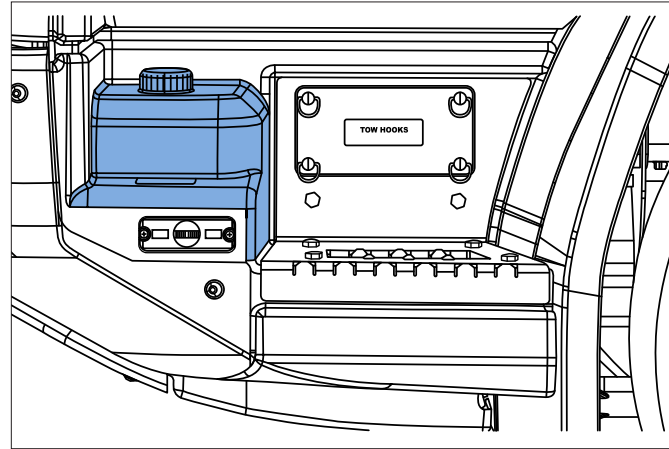

Figure 23 - Windshield washer fluid reservoir
- The windshield washer fluid reservoir is located behind the bottom of the driver's side door, next to the cab step (Figure 23).